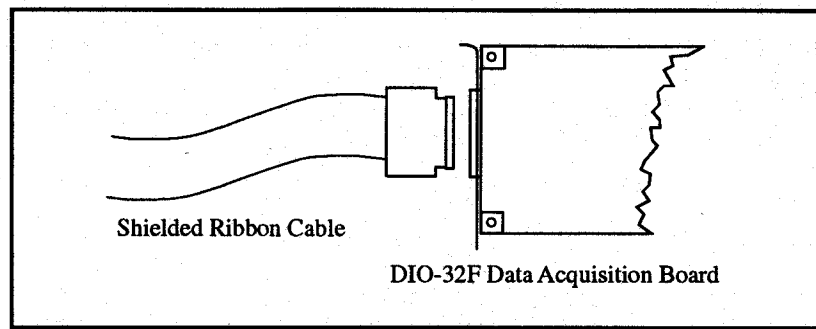

Figure 2. Cable to I/O Connector Connection
7. Connect the loose end of the shielded ribbon cable to the I/O connector on the data acquisition board as shown in Figure 2.